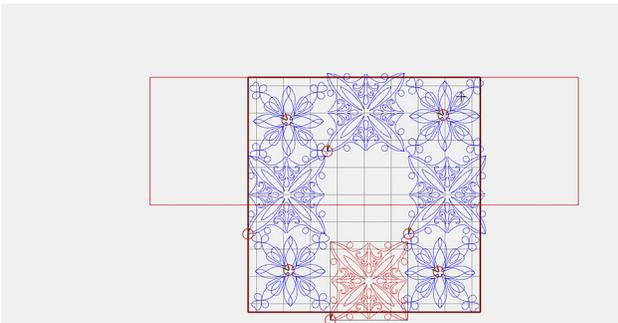

Fig. 73
- Place Design 2 in block areas 2, 4, 6, and 8 (Fig. 73).